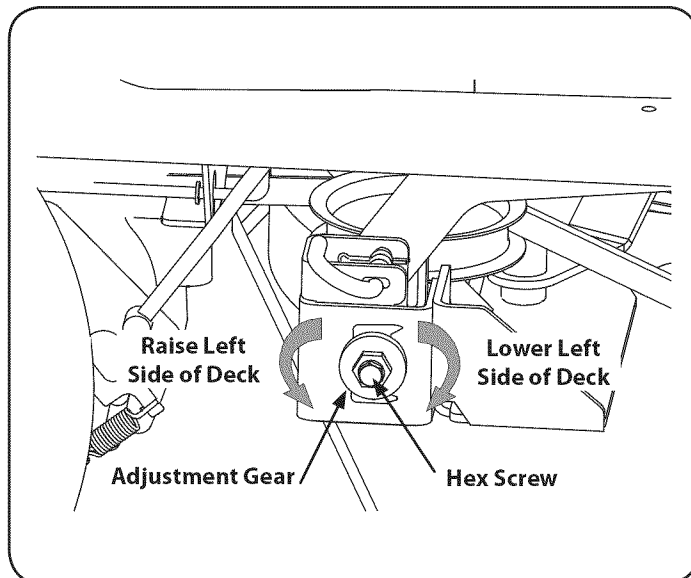

Figure 34
5. Loosen, but do not remove, the hex screw on the left deck hanger bracket. Refer to Figure 34.